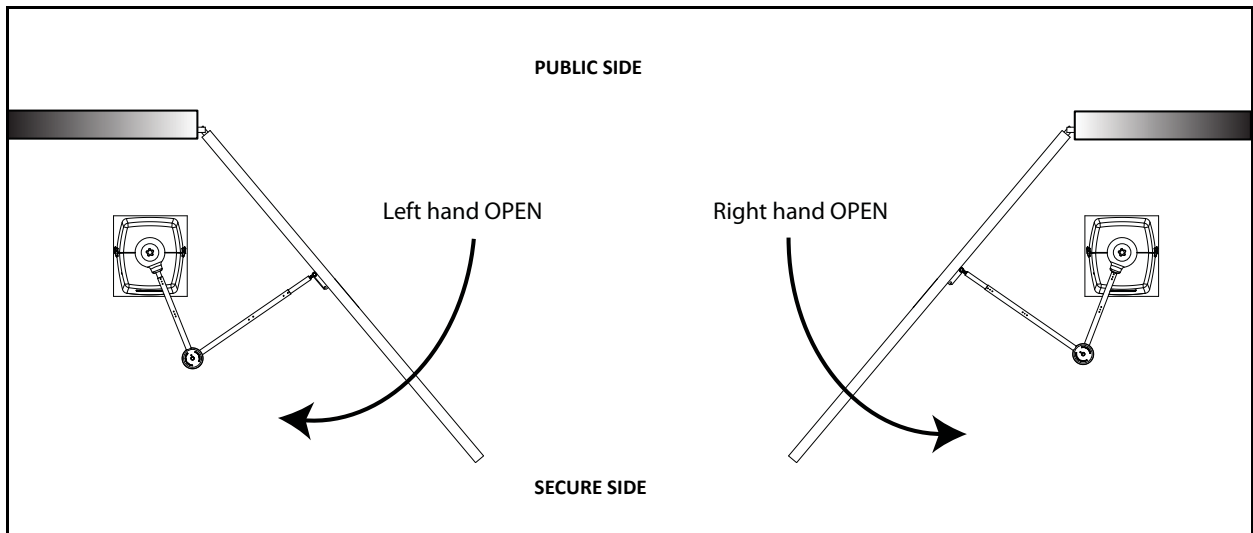

Figure 1-12.
1. Determine whether the gate operator is a right-hand operator or left-hand operator. See Figure 1-12. Stand on the secure side of the gate. If the gate opens to the right, it is a right-hand operator.